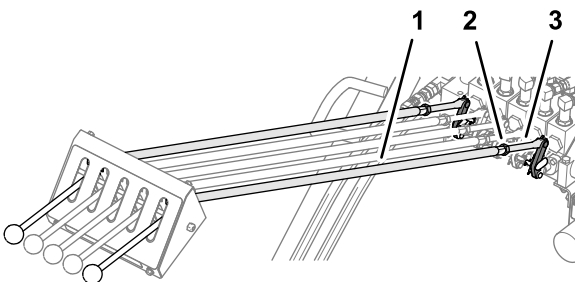

**Figure 32**
6. At the control valve, secure the control-rod link to the control lever with a cotter pin (Figure 32).